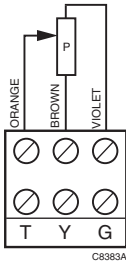

Fig. 5. Wiring for ML6421A, B with single potentiometer.
6. For ML6421A, B, connect wiring from the auxiliary potentiometer to the terminal block(s). See Fig. 5.